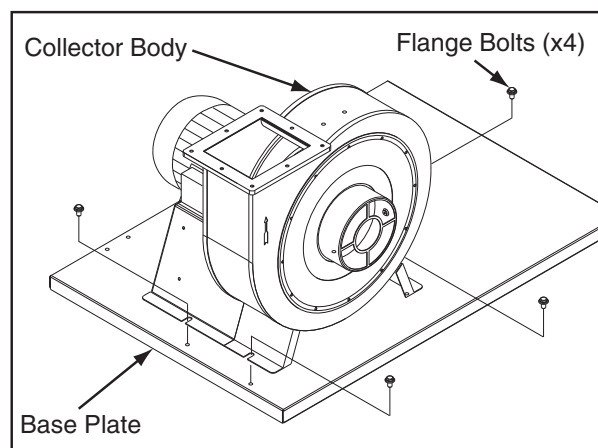

Figure 27. Mounting collector to base.
2. Turn the base over, then set the collector body on top of the base plate so the intake portion is near the edge of the base plate and the bolt holes are aligned, as shown in **Figure 27**. Secure the collector body to the base plate with (4) $\frac{5}{16}$ "-18 x $\frac{1}{2}$ " flange bolts.